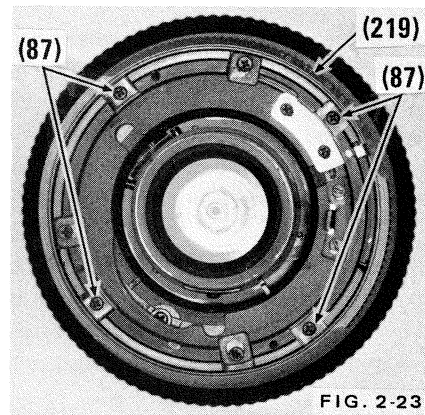

FIG. 2-23
- c) Remove aperture ring (219). Fig. 2-23. Remove and lay aside the detent ball located between the index ring and the aperture ring.
- d) Remove four screws (87) that attach mount frame (220) to the lens. Fig. 2-23.